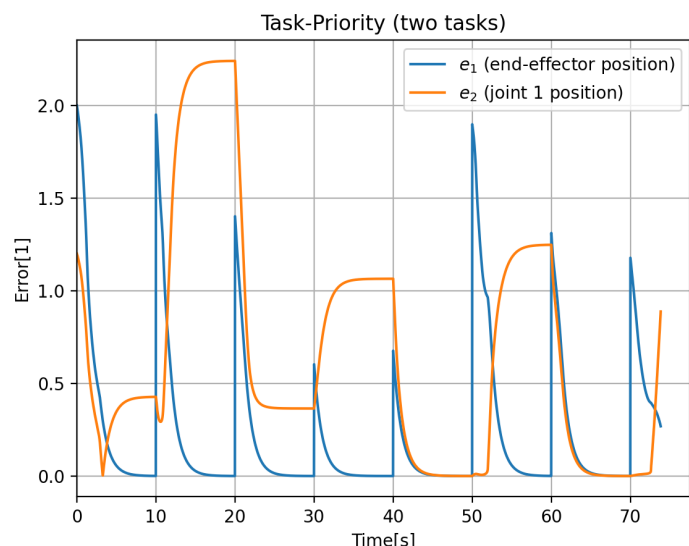

Fig 2. Evolution of the TP control errors.
- 4) Four plots presenting the evolution of task errors over time (see Fig. 2), one for each of the task hierarchies defined in point 6.
- 2) Three plots presenting the evolution of the norm of control errors related to both defined tasks over time (see Fig. 2), for three different values of the K matrix related to the first task.